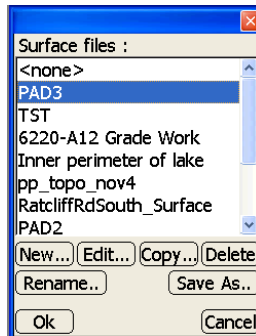

Figure 5-11. Surfaces Dialog Box
3. Press **Data ▶ Surface ▶ [<none> or file name]** to display the *Surfaces* dialog box. Select the desired surface file, then press **Ok** (Figure 5-11).